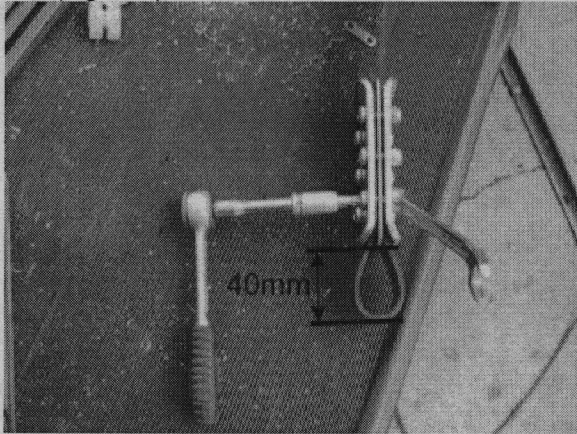

Fig. 081
11. Fasten loop clamps on the end of the lifting belt on side 2. The loop length must be approx. 40 mm (Fig. 081).